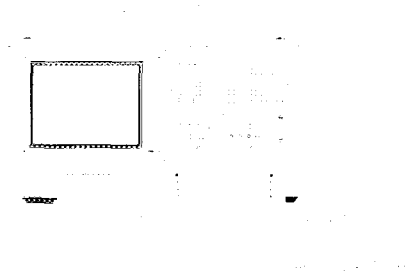

Figure 4-23. Transmission Calibration Test Setup
- 56 Connect the equipment as shown in Figure 4-23.